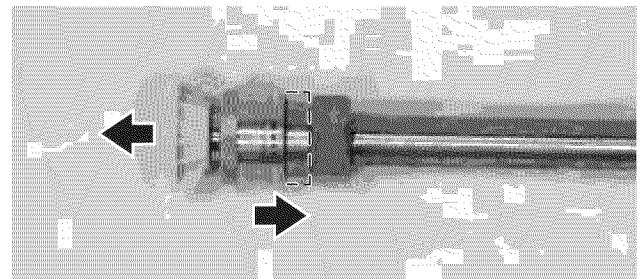

Figure 38 – Spray Tip Removal
3. Remove the spray tip from the end of the nozzle extension (see Figure 38).